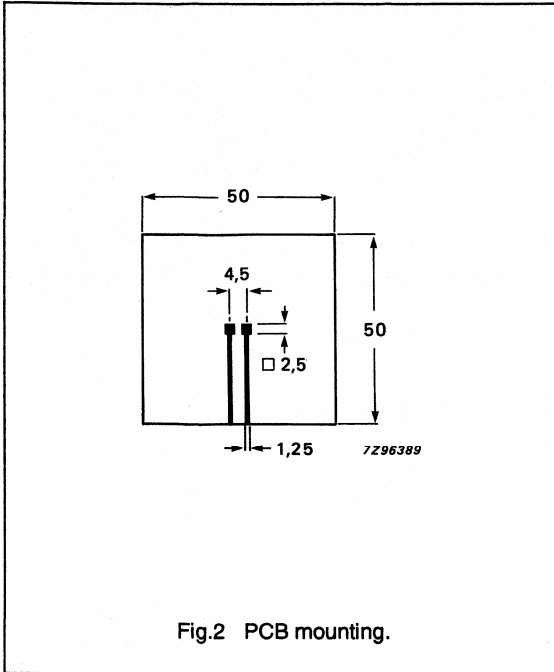

Fig.2 PCB mounting.
1. Device mounted on a 1.5 mm thick epoxy-glass PCB; Cu-thickness 40 μ m (see Fig.2).